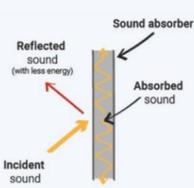

Figure 3. Sound Absorption
- With each collision, sound waves lose energy to friction (Ghermezzgoli, 2020). Thus, porous substances are excellent at dampening sound (Figure 3) (2024, *Atelier*).